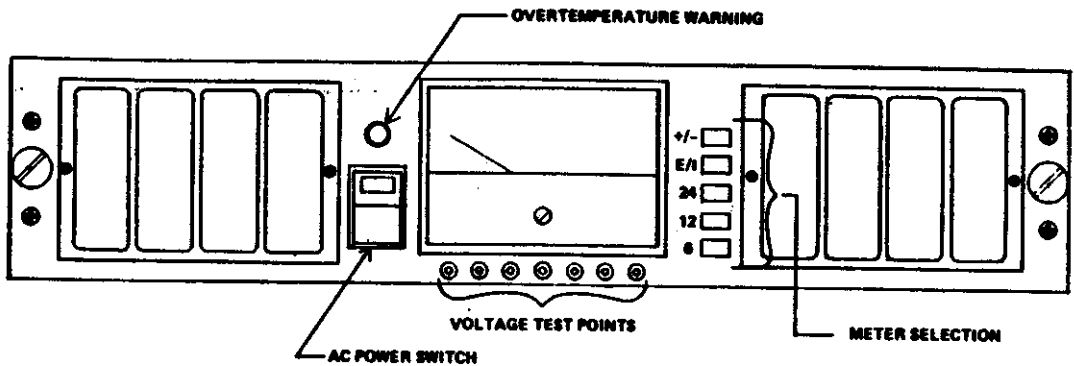

Figure 4 - Ventilation Unit Front Panel
2. Turn the power switch to ON position (see figure 4). The ON indicator lamp on the switch should glow. The three fans on the ventilation unit and the rear power supply fan should be rotating.
Test points for monitoring the six supply voltages are provided on the front panel of the ventilation unit. (See figure 4). Each test point is connected to a series resistor. These resistors allow grounding of any test point without affecting operation of the power supply. Any meter with 20,000 ohms/volt or higher sensitivity can be used without affecting the accuracy of the reading.